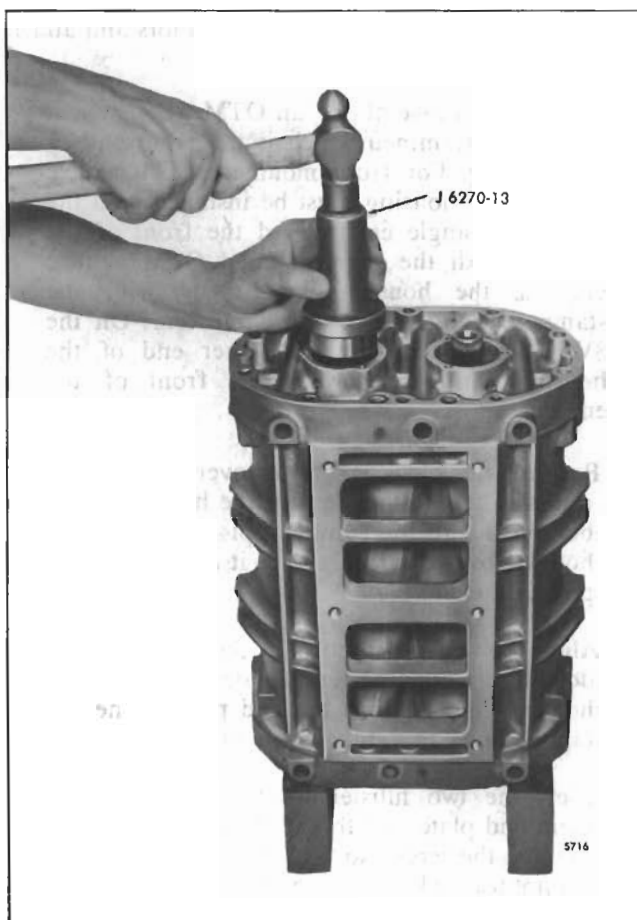

Fig. 16 - Installing Ball Bearings on Rotor Shaft and in Rear End Plate
- Place installer J 6270-13 on top of the bearing and tap the bearing straight on the shaft and into the rear end plate as shown in Fig. 16.